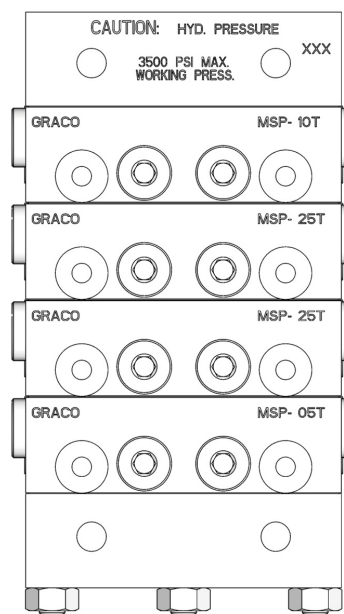

FIG. 13
- b. Add the output volume numbers stamped in the upper right corner of each of the assembly's valve sections (FIG. 13) (i.e., the 10 from a 10T or 10S section. etc.).